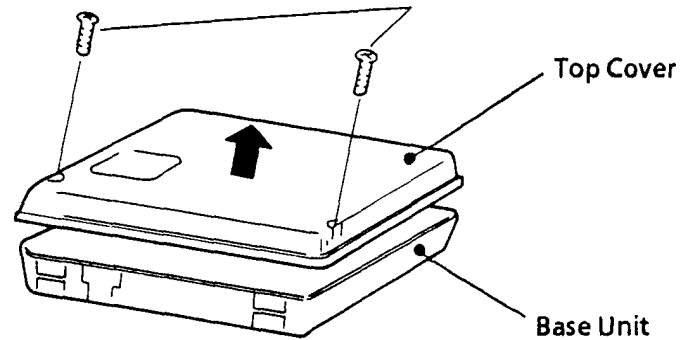

Figure 1-8 Removing the KSU Cover
1. Loosen the two screws and remove the cover. (Refer to Figure 1-8 - Removing the KSU Cover.)